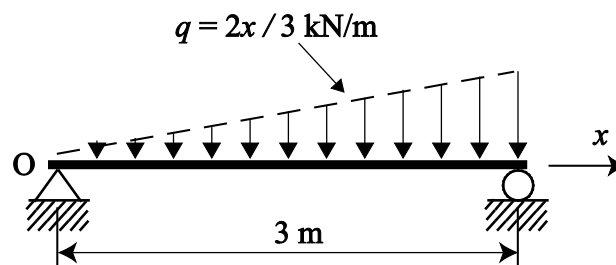

Figure 7
7. A beam of length 3 m is simply supported at its ends and is loaded by a linearly varying distributed load, whose intensity varies from 0 kN/m at $x = 0$ to 2 kN/m at $x = 3$ m, as shown in Figure 7. [Actually, the beam is vertical. It forms part of a wall that retains water, and is supported laterally at the base and at the top. But here we think of it as horizontal, for the purpose of finding bending-moments, etc.]